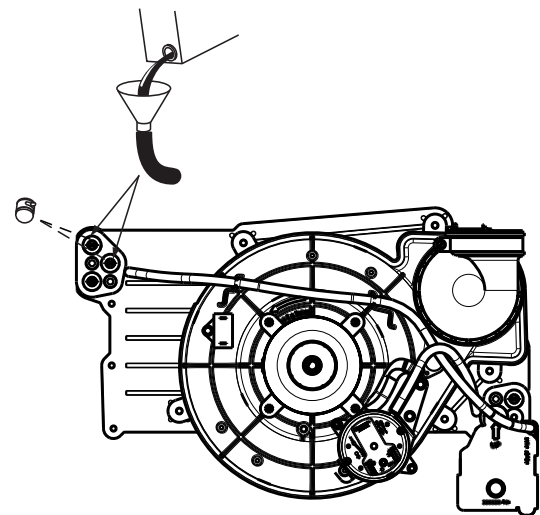

Fig. 59 – Priming Condensate Trap (Appearance May Vary)
1. Remove upper and middle collector box drain plugs opposite of the condensate trap. See Fig. 59.
2. Connect field-supplied 5/8-in. (16 mm) ID tube with attached funnel to upper collector box drain connection, see Fig. 59.